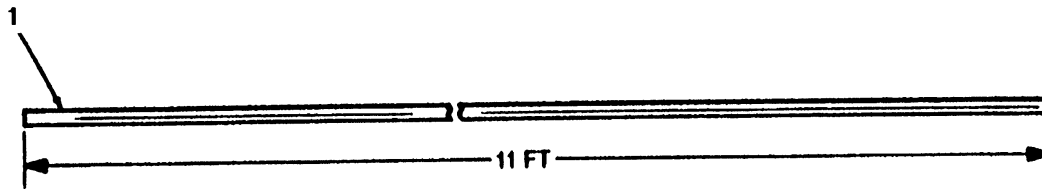

FIGURE 3-32
8. Cut eleven feet of NSN 5330-01-282-2213 seal (1). (see figure 3-32)